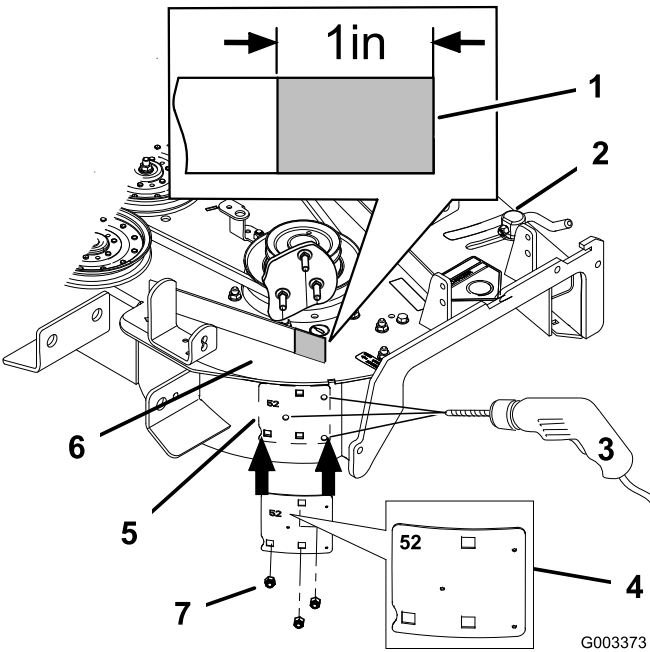

Figure 5
- Install the metal template, with the number 52 in it, to the mower deck with the previously removed carriage bolts and nuts using the existing holes in the mower deck (Figure 5).
- Center punch the new mower deck hole locations using the 3 holes in the template (Figure 5).
- Remove the metal template and drill three, 1/8 inch diameter, pilot holes with a sharp drill bit (Figure 5).
4. Drill three, 13/32 inch diameter, holes into the pilot holes with a sharp drill bit (Figure 5).
5. Remove part of the metal belt cover support on top of the mower. Refer to Figure 5 for the correct size and location to remove.